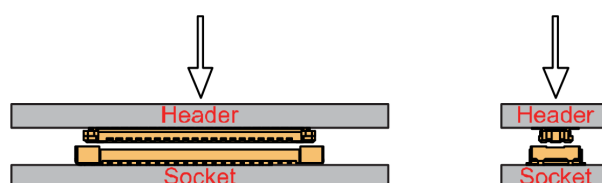

Figure 3: RAK5811 WisConnector
2. Secure the RAK5811 module with 3 x M1.2x3 pan head screws as shown in Figure 3 below: